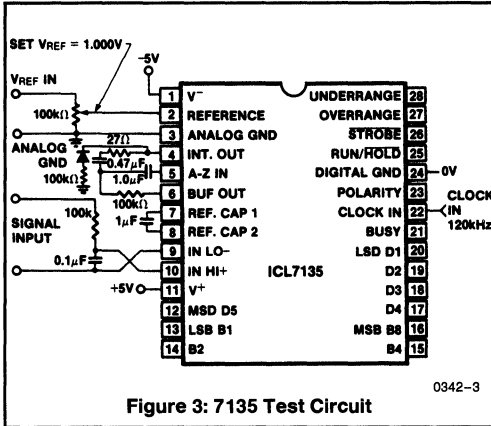

Figure 3: 7135 Test Circuit
1. Tested in 4-½ digit (20,000 count) circuit shown in Figure 3, clock frequency 120kHz.